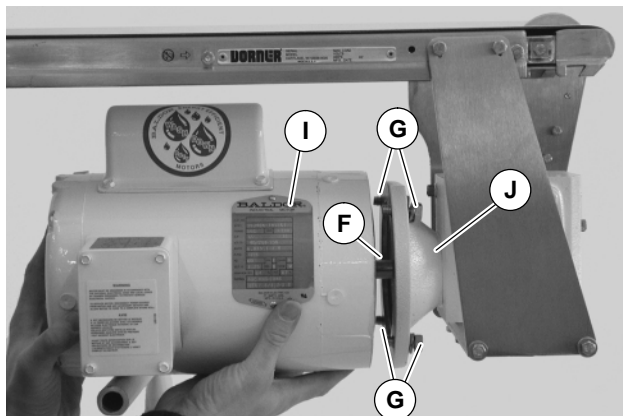

Figure 29
7. With key (F of Figure 29) in keyway, slide motor (I) and gear reducer (J) together. Install screws (G) and tighten.